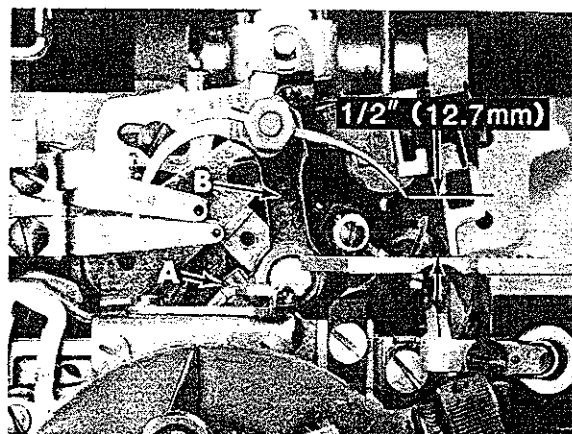

Fig. 5
Loosen needle driving arm clamp screw (A, Fig. 5) and center needle(s) in needle slot(s) of throat plate by adjusting needle driving arm (B) left to right as required. Temporarily tighten clamp screw (A), then proceed to needle height adjustment.
Rotate handwheel in operating direction until needle(s) is at highest position. The needle height measurement from point of needle(s) to top of throat plate must be 1/2 inch (12.7mm) as shown in Fig. 5.
Loosen clamp screw (A) and adjust needle driving arm (B) front to back as required to obtain needle height shown in Fig. 5, then tighten clamp screw (A) and replace looper thread pull-off.